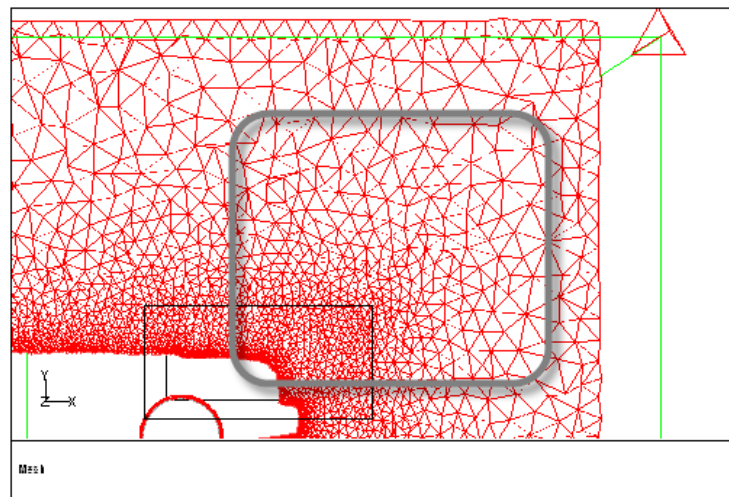

Figure 2.15: Transition Between Cells in Locally Refined Region and the Rest of the Domain
*For the mesh generated, the local growth rate defined results in a smooth transition between the small cells in the wake region and the larger cells in the rest of the domain (see Figure 2.15). Further manual operations to obtain better quality are not required in this case.*